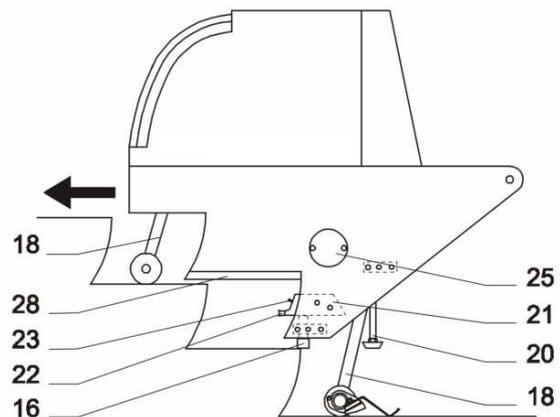
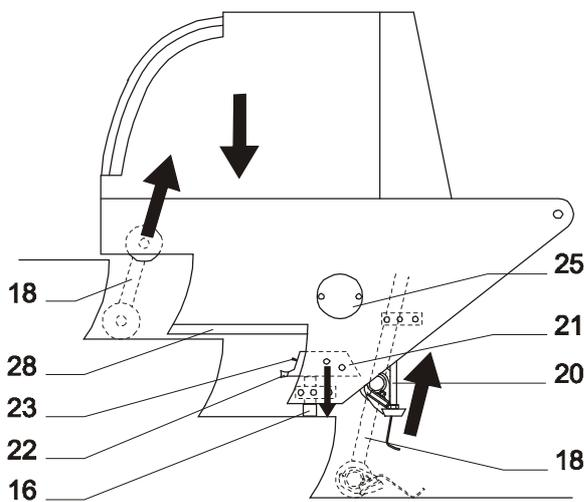
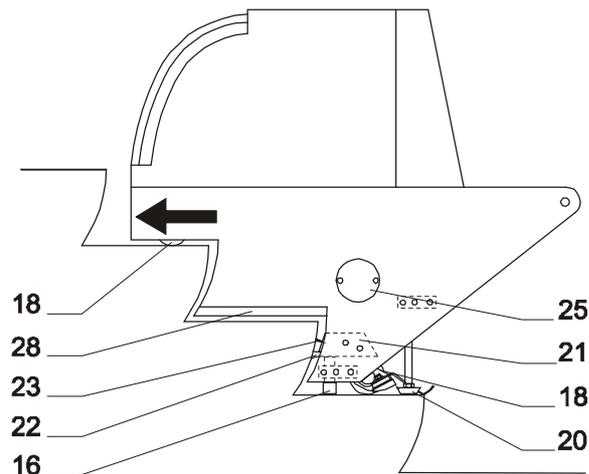

Fig. 7: Fixing the machine
Fig. 10: Lowering the machine
Fig. 11: Positioning the machine
The machine with extended lifting spindles (18) should then be shoved into the escalator and moved by authorised escalator operators to the first completely extended step (Fig. 7).
In order to achieve an ideal moisture content on the brushes, the first step should be cleaned twice at the beginning of the cleaning operation. If there is strong sunlight or high temperature in the surroundings, preliminary spray of the escalator should be over a length of no more than 3-4 steps, since the cleaning liquid dries very quickly on warm steps. After the machine - lying on the left side of the escalator - is shoved into the escalator step until the wheels stop (see Fig. 7), it is then lowered (Fig. 10: Lowering the machine ) and shoved into the stairs on the glide rails (28) until the seal strip (22) is arrested (Fig. 11: Positioning the machine ).
The machine is then shoved forward again until the wheels stop on the next highest step (Fig. 7), and then lowered again. The machine can now be shoved on the glide rails into the new working position (Fig. 11: Positioning the machine ).